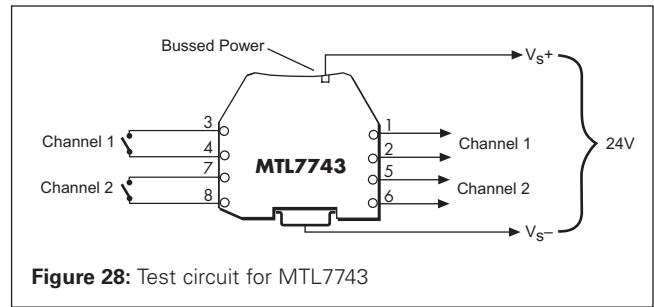

Figure 28: Test circuit for MTL7743
- Connect the barrier as shown in figure 28.